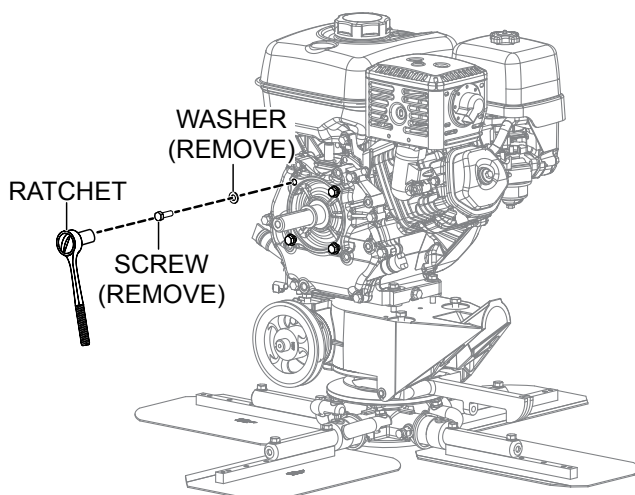

Figure 4. Clutch Panel Bolt Removal
1. Using a ratchet, ratchet extension, and socket, remove the four screws and washers, or flange bolts (Figure 4), that bolt to the engine.